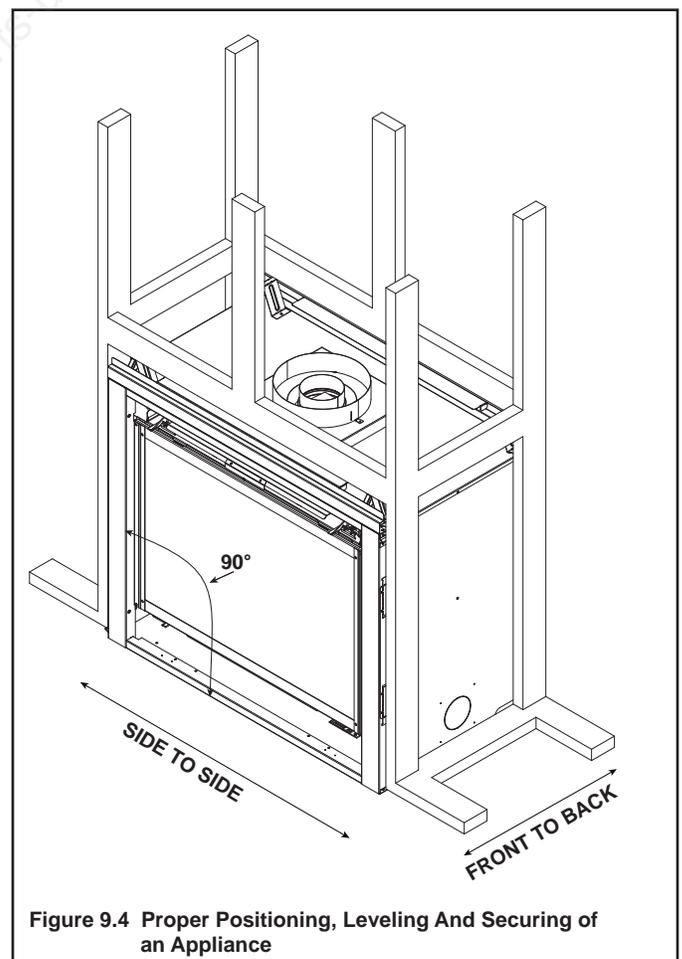

Figure 9.4 Proper Positioning, Leveling And Securing of an Appliance
5. Using a framing square, make sure that the sides of the appliance are square to the bottom as shown in Figure 9.4.